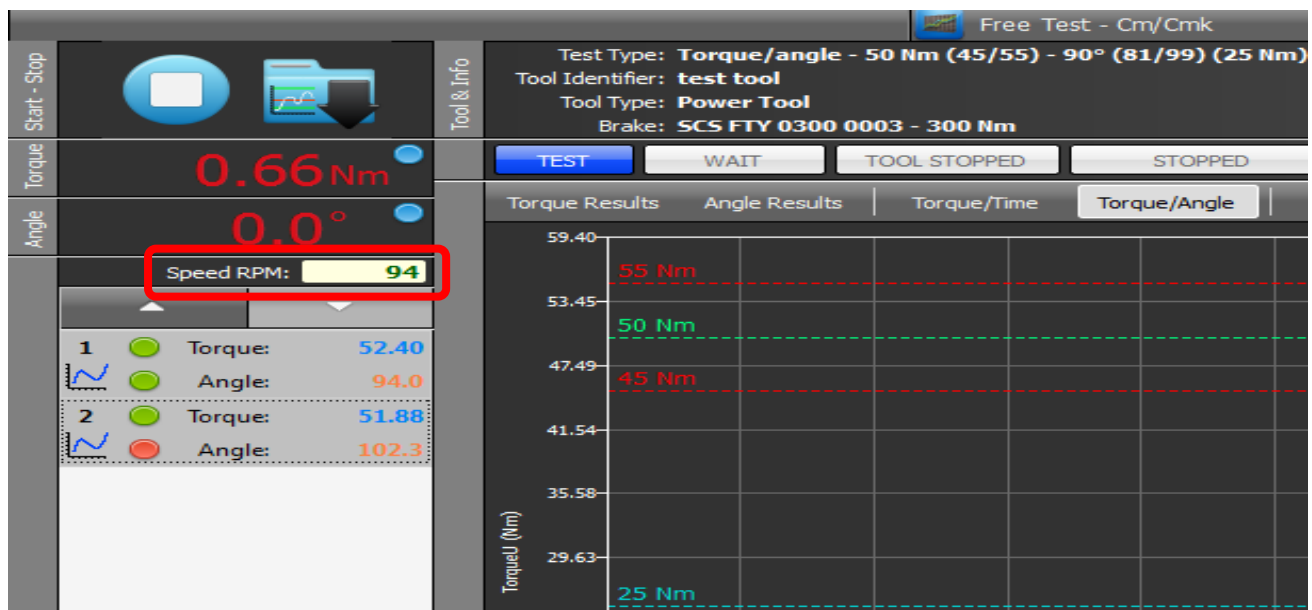

Figure 1
- at the end of every tightening, the **speed peak** is visualized (see **Figure 1**) until the next tightening starts. The speed information is visualized only when it is effectively meaningful (that means with only with the power tool), otherwise it is hidden in the test user interface.